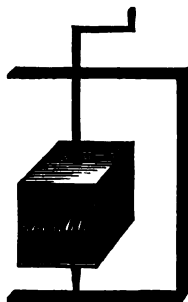

FIG. 141.
r. f is a gas-burner, fed by the tube *g*. The gas-tube is separated from the other only by the thin sheet of rubber. The vibrations of the voice sounding at *m* set the rubber partition to vibrating, and drive out the gas in puffs. These cause changes in the height of the flame, but they are too rapid to be noticed, and the gas-flame looks to the eye to be steady. But when a square box having its four sides covered with mirrors (Fig. 141) is rapidly rotated in front of the flame, its changes can be seen.